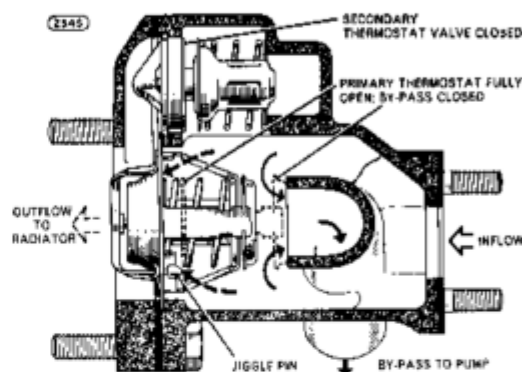

Fig. 7. Thermostat Unit
22. **AUTOMATIC TEMPERATURE CONTROL.** The design of the thermostat is such that until a predetermined temperature is exceeded, all the circulating water is diverted through a by-pass port in the thermostat housing (Fig. 7) and returned directly to the intake side of the pump. Thus when the engine is cold there is no circulation through the radiator or heat exchanger and "warming-up" time is thereby reduced to a minimum and normal running temperature achieved in the shortest possible time.